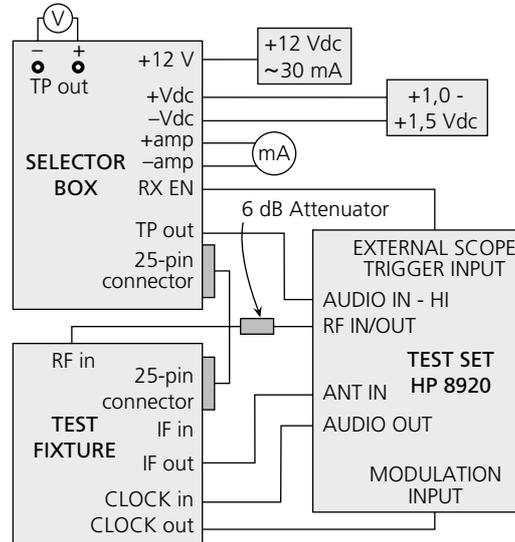

Figure 16. Recommended equipment setup using RF Communication Test Set.
- 1 Connect the test equipment as shown in figure 16.